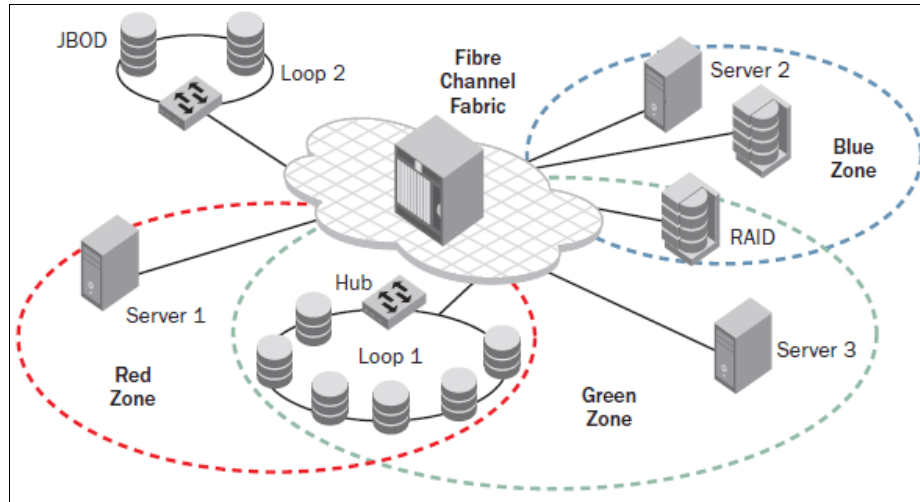

Figure 2-39 Example of single initiator zones
- ▶ Create zones with only one initiator (shown in Figure 2-39 on page 73) and target, if possible.